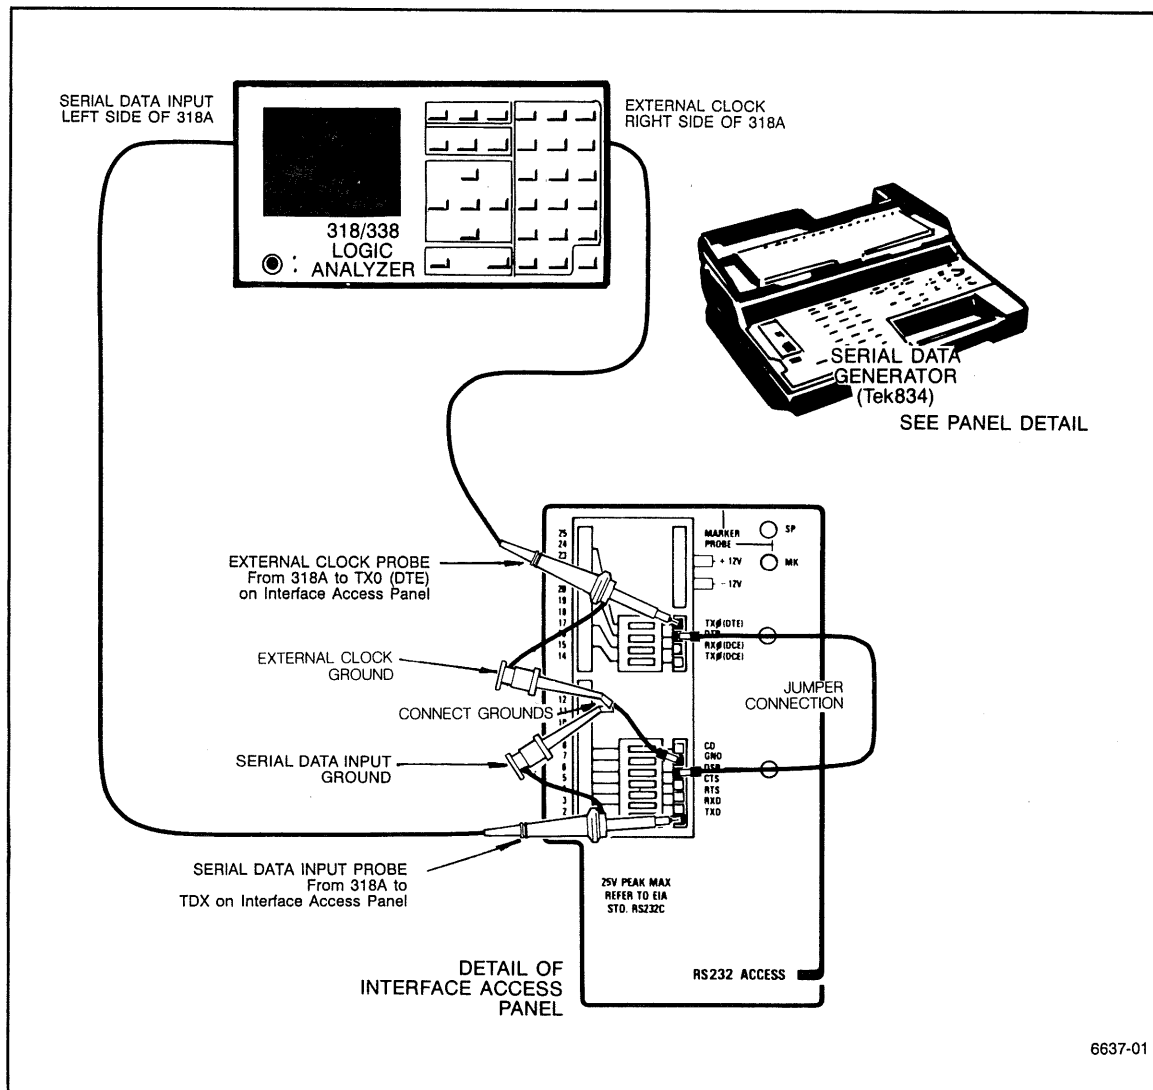

Figure 2-32. 318A Serial state analyzer performance test setup.
Refer to : Figure 2-32.
6. Connect test setup as shown in Figure 2-32.